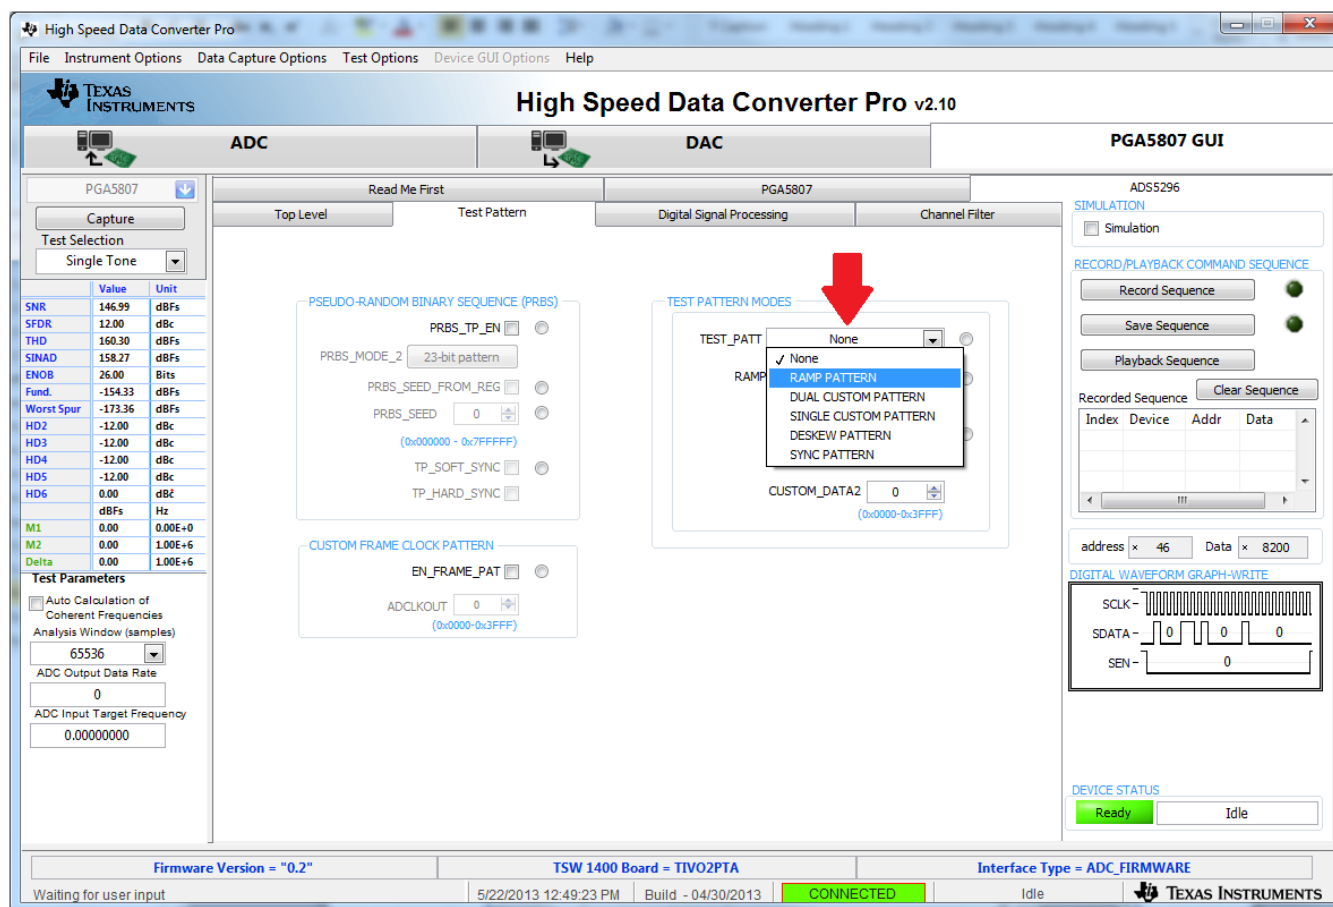

Figure 32. ADS5296 Setup for RAMP Test
1. Within the ADS5296 tab, press on the sub-tab labeled *Test Pattern* and select **RAMP PATTERN** within the **TEST_PATT** menu as shown in Figure 32.